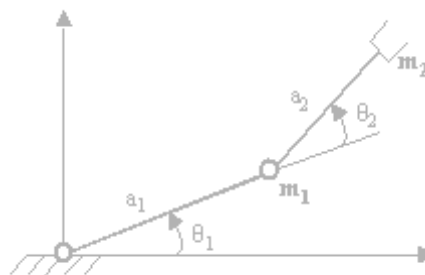

Figure 7
- Determine the dynamic equations for the two-link manipulator shown in Figure 7. Assume that the whole mass of the link can be considered as a point mass located at the outermost end of each link. The masses are  $m_1$  and  $m_2$  and the link lengths are  $a_1$  and  $a_2$ . [16]